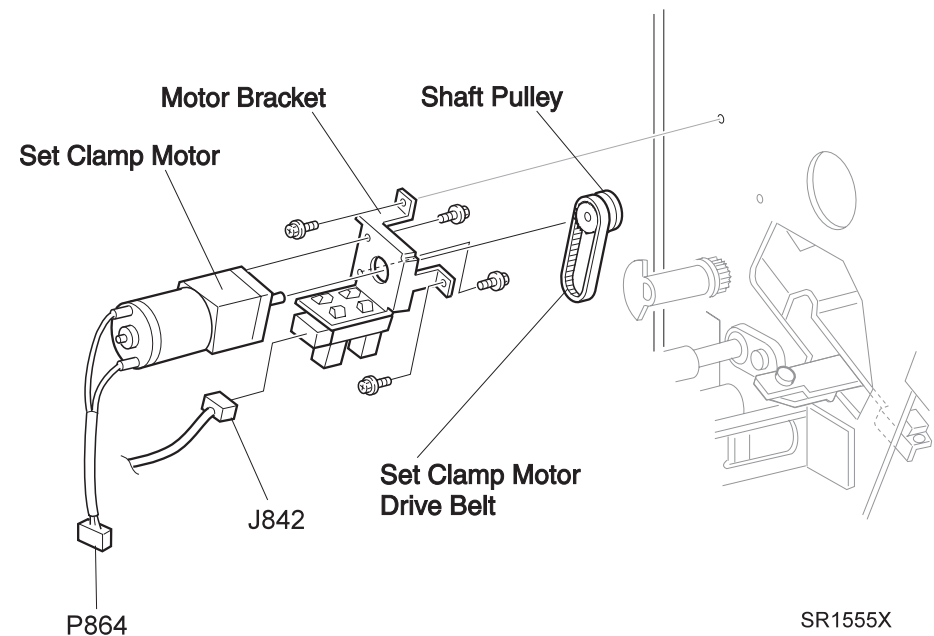

Figure 3-77. Set Clamp Motor
2. Install the Shaft Pulley to the Motor Shaft as shown in the Figure 3-77.